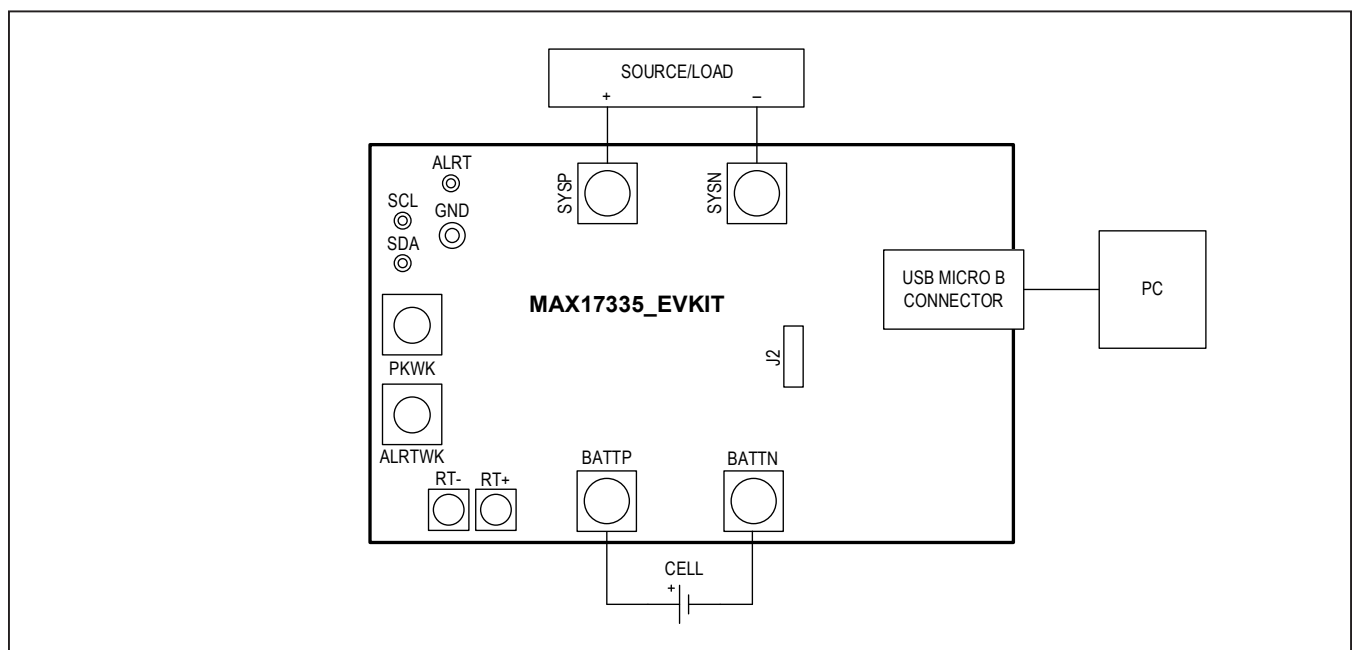

Figure 1. MAX17335 Board Connections
- 5) Make connections to the EV kit board based on Figure 1. The cell connects between the BATTN/BATTP pads. The load or charger circuit can be connected between the SYSP and SYSN pads at this time as well.